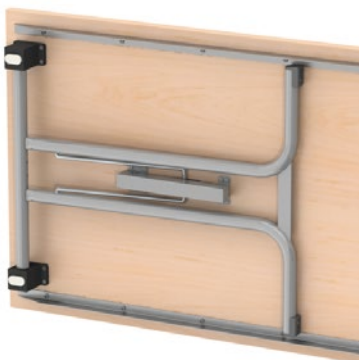

Figure 1
- Legs lock automatically when folded (Fig. 1).